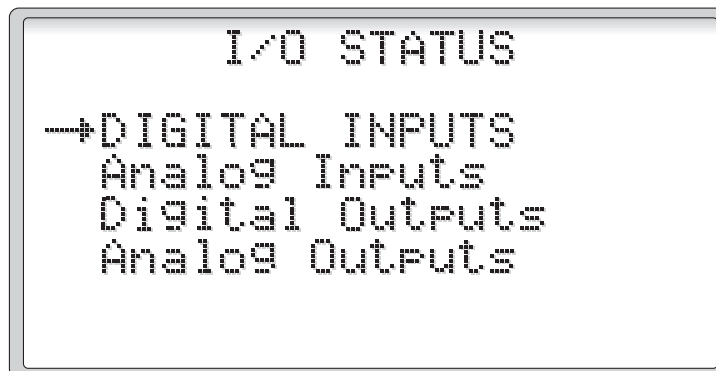

Figure 48
2.3.4.3 I/O Status (Figure 48)
Selecting the I/O Status from the SERVICE MENU displays the Digital Inputs, Analog Inputs, Digital Outputs and Analog Outputs selection menu (Figure 48). Use the **UP** and **DOWN** key to make a selection and press the **ENTER** key.